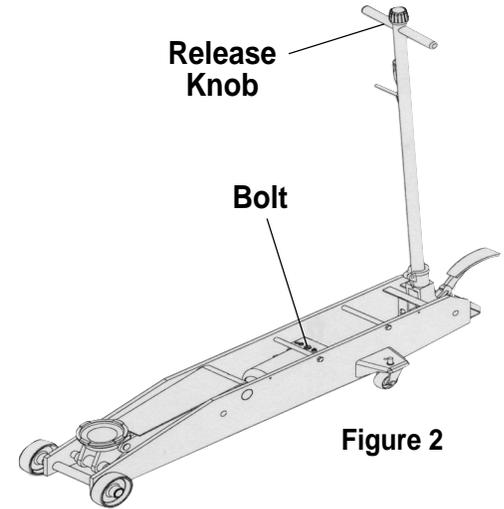

Figure 2
2. Loosen the bolt (Item 46; also see Figure 2) one-half turn.